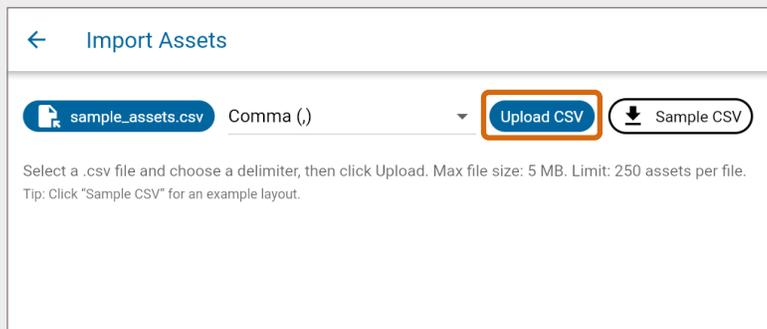

Fig. 76 – Import Assets screen with Upload CSV indicated
7. When you are ready to import the assets, select **Upload CSV**, shown in Fig. 76.